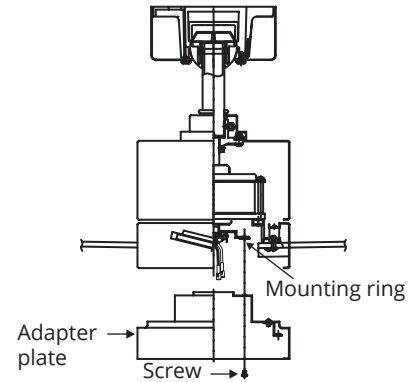

FIGURE 18
2. Place the key holes in the mounting plate over the two screws previously loosened from the mounting ring. Turn the mounting plate until the adapter plate locks in place at the narrow section of the key holes. (Fig. 18)